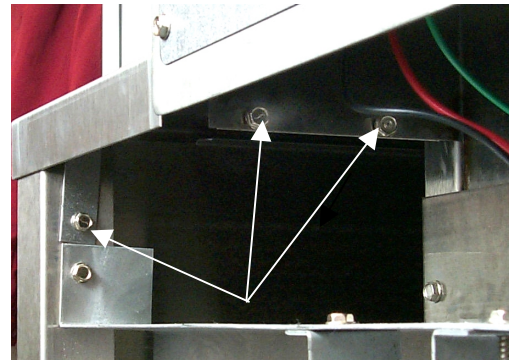

Fig.2: Three screws hold top in place on Sinbad II.
- Remove the three screws that hold the top cover in place. Fig. 2 **Note:** Two of the screws, which secure the top on the larger Sinbad, are inside the hopper motor housing.